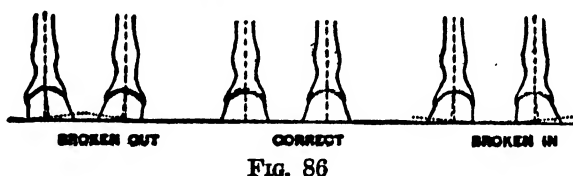

FIG. 86
8. If the foot toes out, cut as much as possible from the wall on the outside of the foot, leaving the inside high. If the foot toes in, cut more of the inside, leaving the outside high. Fig. 86.